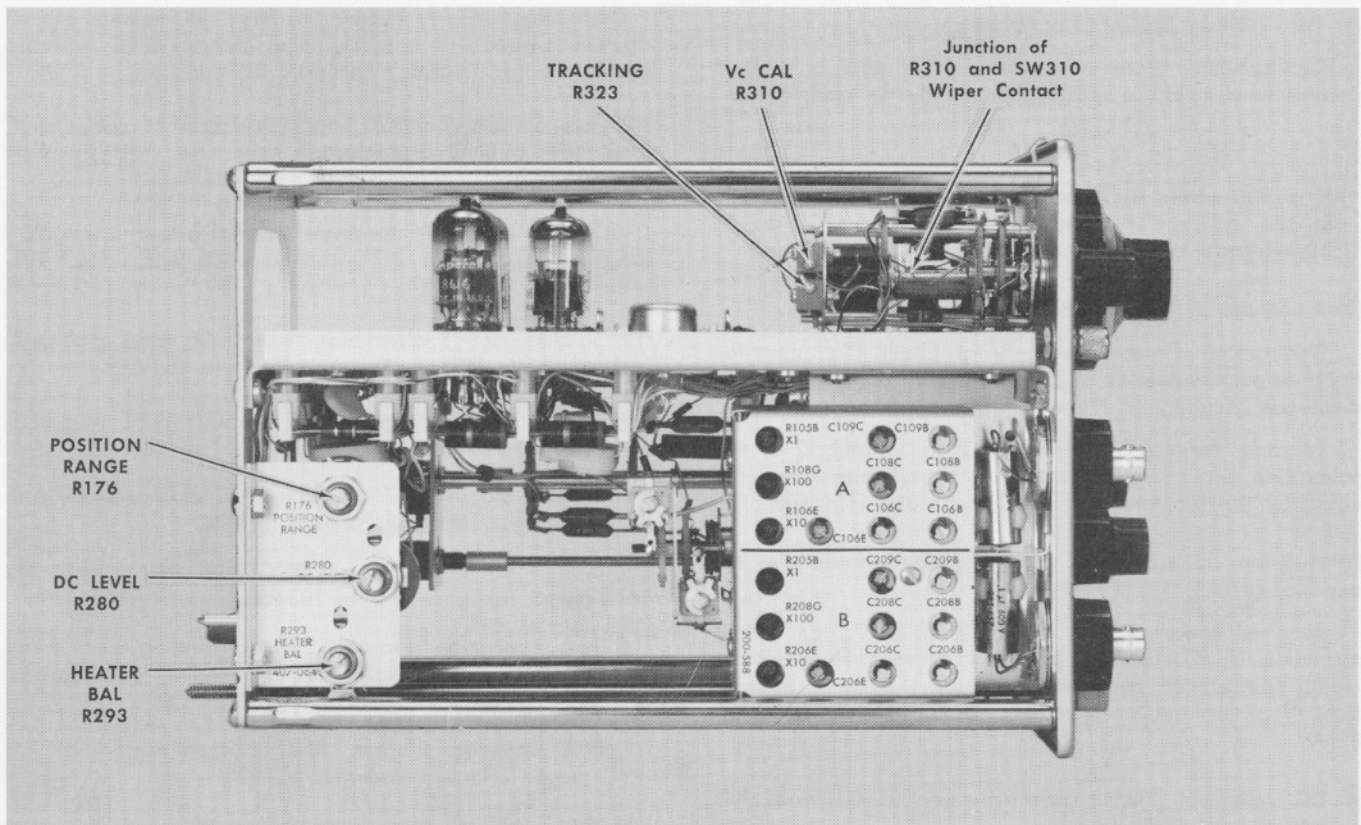

Fig. 5-1. Location of the calibration adjustments (left-side view; securing rod removed for picture).
- Set the non-loading voltmeter (item 3) to +11 volts.
- Adjust the Vc CAL control R310 (see Fig. 5-1) for a null reading on the meter.
- c. Adjust the TRACKING control R323 (see Fig. 5-1) for a null reading on the meter.
- c. Adjust the POSITION RANGE control R176 (see Fig. 5-1) so the trace coincides with graticule center.
- b. Adjust the DC LEVEL control R280 (see Fig. 5-1) to obtain a reading of 6 volts on the VOM.
b. As a preliminary adjustment, slowly adjust the HEATER BAL control R293 (see Fig. 5-1) to center the trace. Due to thermal drift, allow some time for the trace to stabilize to be sure the trace stays centered.